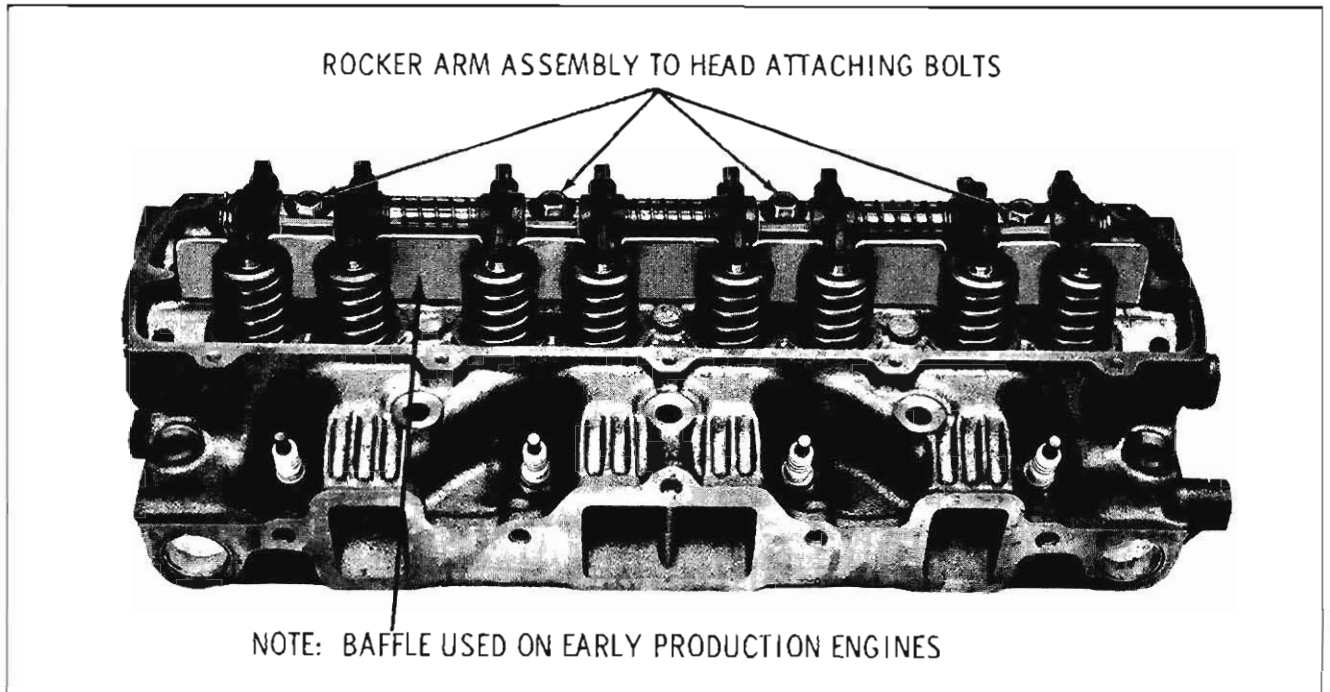

Fig. 3-406 Rocker Arm Assembly Attachment
2. Remove four rocker arm shaft bracket to head bolts. (Fig. 3-406)
cylinder head and align brackets with mounting bolts. (Fig. 3-406)